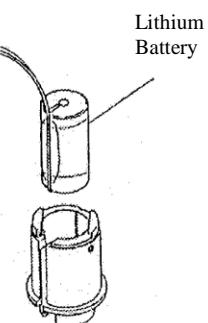

Fig. 10 :
5. Place a new battery in the battery case. The battery pipe must be in the lit of the inner clamp. Otherwise the battery will not go fully into depth. (Fig. 10).